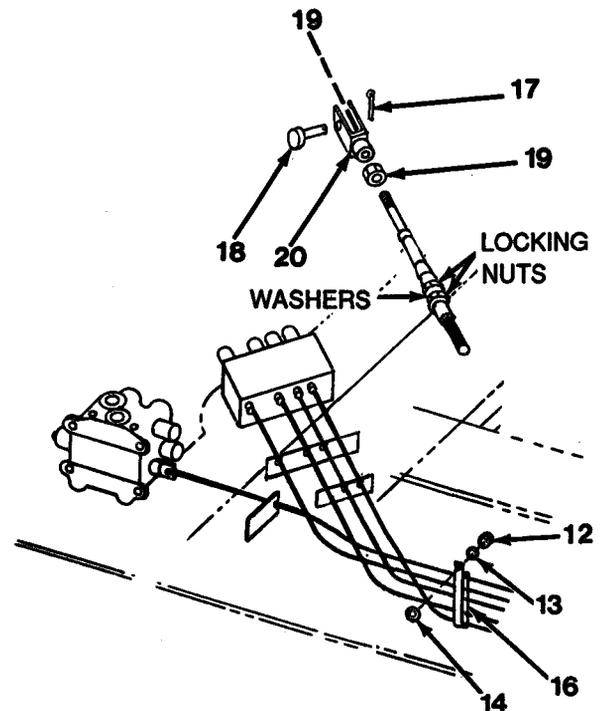

Figure 17-4
1. Remove cotter pin (17) and pin (18, Figure 17-4). Discard cotter pin (17).
2. Remove two jam nuts (19) and clevis (20).